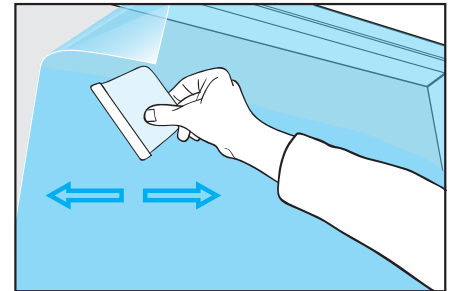

Figure 01
- › Apply the film with the squeegee (previously covered with felt), forming an angle of 45° between the surface of the squeegee and the vinyl. Move the squeegee from the centre towards the edges of the vinyl. (FIG. 01)